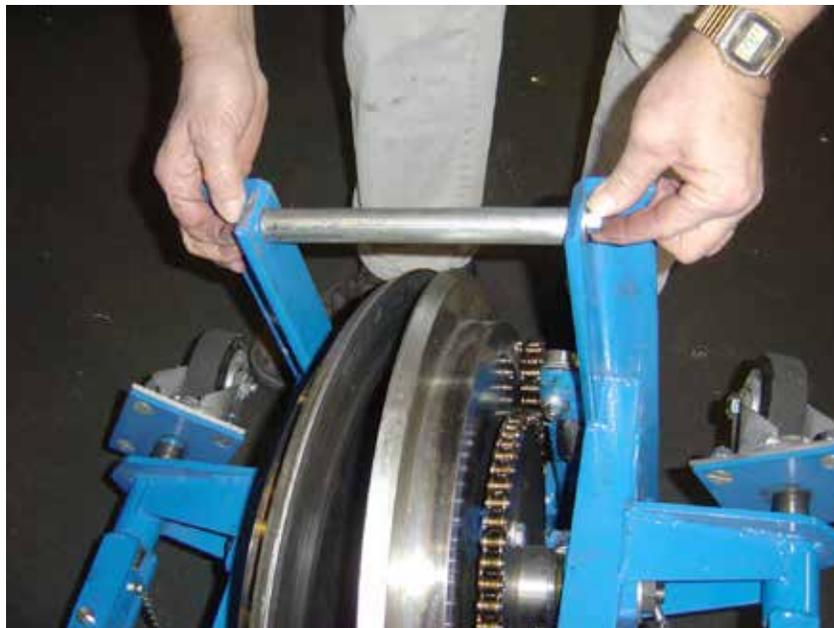

Figure 4 Insert Setup Tube
7. Turn the outer frame upside down and insert the setup tube (located inside the handle during normal operation) as shown in Figure 4.
14. Turn the outer frame right side up. Remove the setup tube (Figure 4).